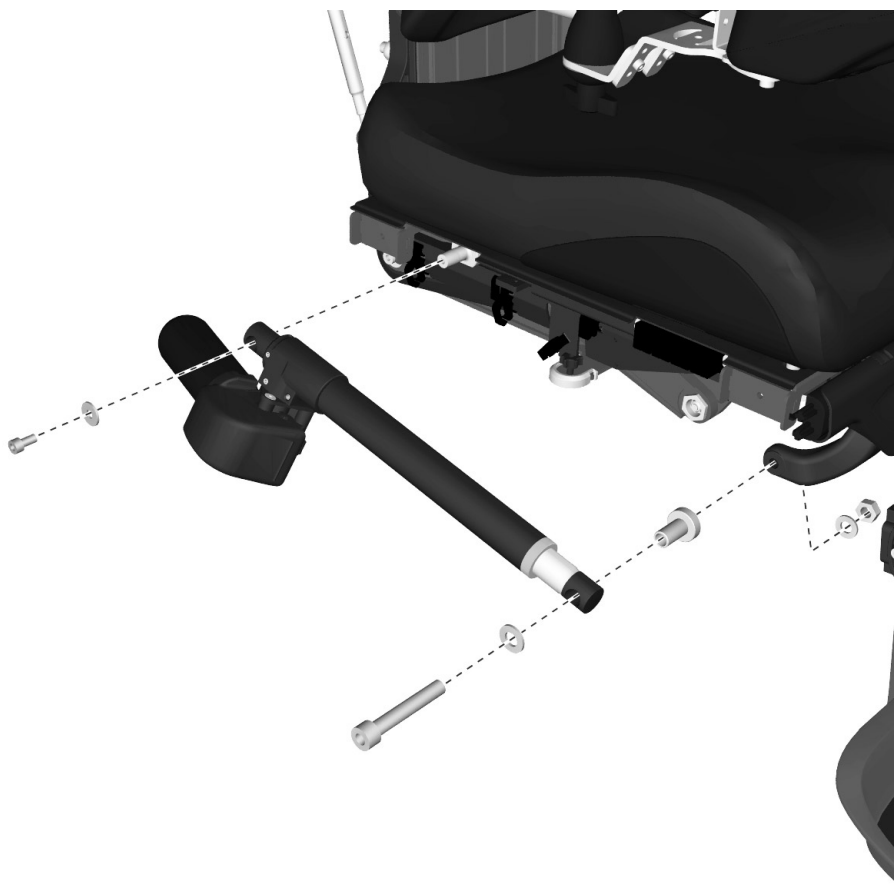

Figure 208. The legrest actuator is held in place by two screws. The actuator cabling is connected to the contact block above the actuator.
4. Remove the lock nut from the front bracket of the actuator. See fig. 208.
5. Remove the actuator, which is held in place by two screws. See fig. 208.
1. Fit the rear fixing screw (M6x12) and washer for the actuator. See fig. 208. Tighten the screw using a torque wrench.
2. Fit the front fixing screw (M10x60), spacer and washer for the actuator. See fig. 208. Tighten the screw using a torque wrench. **Tightening torque: 24 Nm / 17.7 Ft/lbs**
3. Fit the lock nut and washer on the front bracket of the actuator. Hold the screw to counteract rotation while tightening the nut. Tighten the nut using a torque wrench. **Tightening torque: 24 Nm / 17.7 Ft/lbs** See fig. 208.